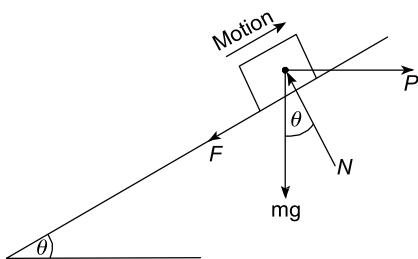

Figure 16.8
This motion, together with the primary forces, is shown in Figure 16.8.
Problem 9. If the mass of Problem 7 were subjected to a horizontal force P , as shown in Figure 16.8, determine the value of P that will just cause motion up the plane.
9. Determine P for Problem 5, if it were acting in the direction shown in Figure 16.8. $[P = 438.6 \text{ N}]$